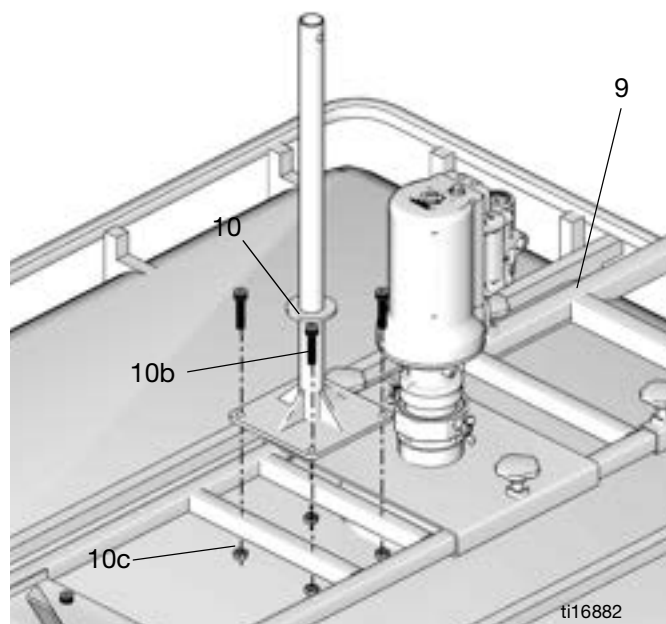

FIG. 16
2. Install the reel bracket (10) to the top bracket (9). Secure in place with the 4 screws (10b) and nuts (10c) (FIG. 16).